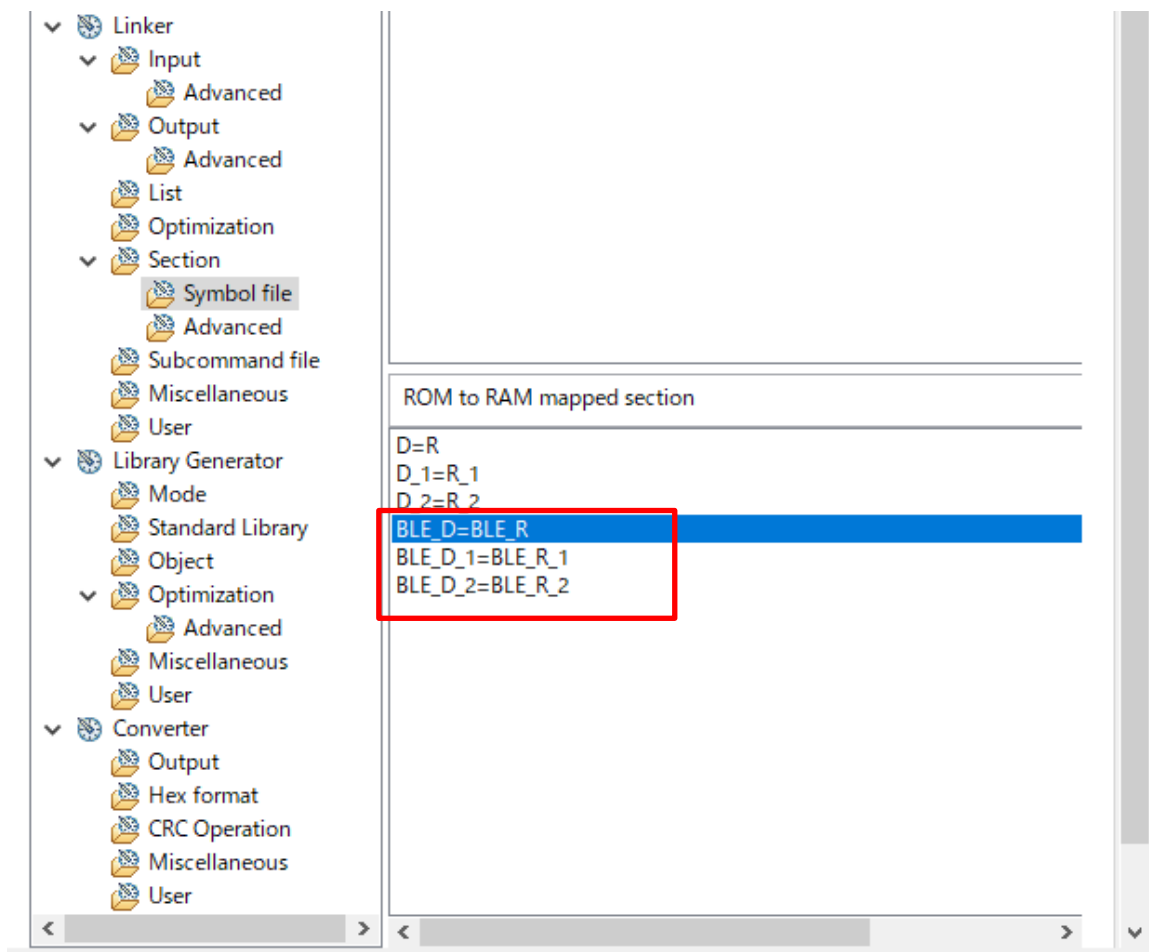

Figure 4-35 : Rom to RAM mapped section configuration
- (1) Select "Settings" → "Tool Settings" → "Linker" → "Section" → "Symbol file".
- (2) Input the following to the "ROM to RAM mapped section". (Figure 4-35)